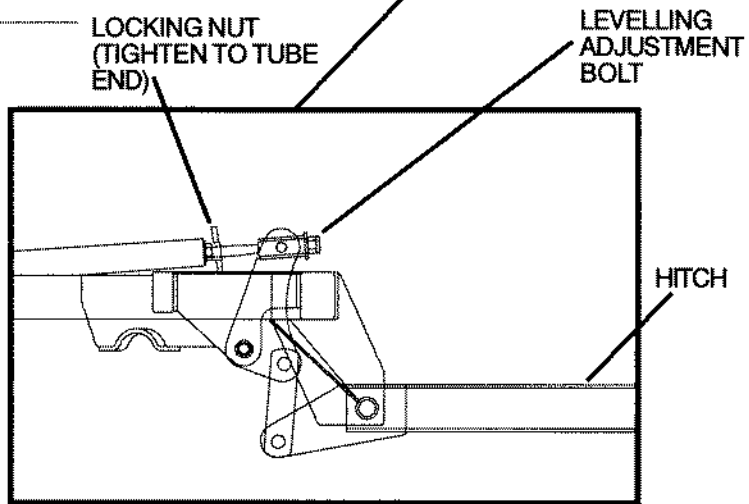

Fig. 4
4. Loosen the levelling nut and adjust the levelling adjustment bolt as required unit "B" and "C" are equal. Use the wrench provided to turn the leveling adjustment bolt. (See Fig. 4)